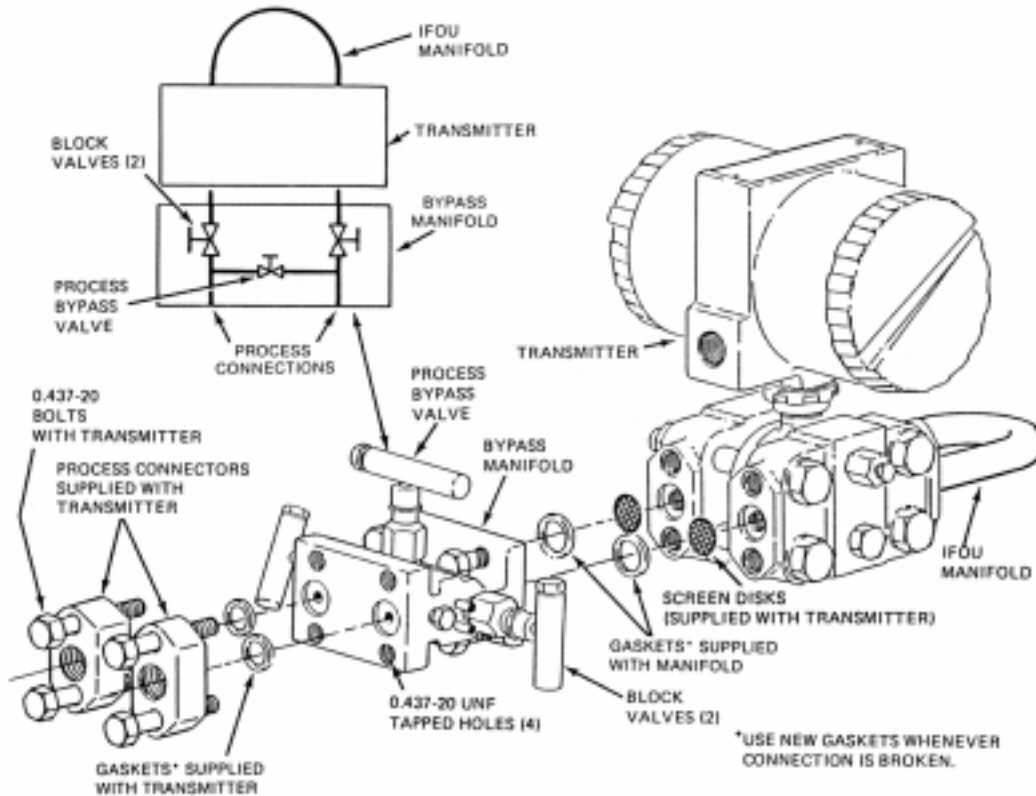

Figure 3. Installation of 3-Valve Bypass Manifold With Bolt-On Process Connectors (With IFOU Manifold)
2. If transmitter does not have an integral flow orifice U-bend (IFOU) manifold, refer to Figure 2. If transmitter has an IFOU manifold, refer to Figure 3.